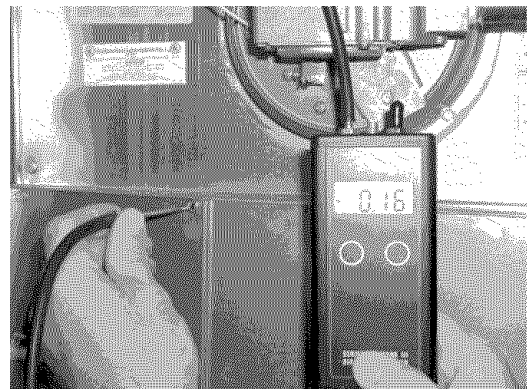

FIGURE 52: Measuring supply static pressure
- c. Insert static pressure probe into each screw hole. Insert probe straight into hole 6". Probe must be level (horizontal) for proper measurement. See Figure 52.